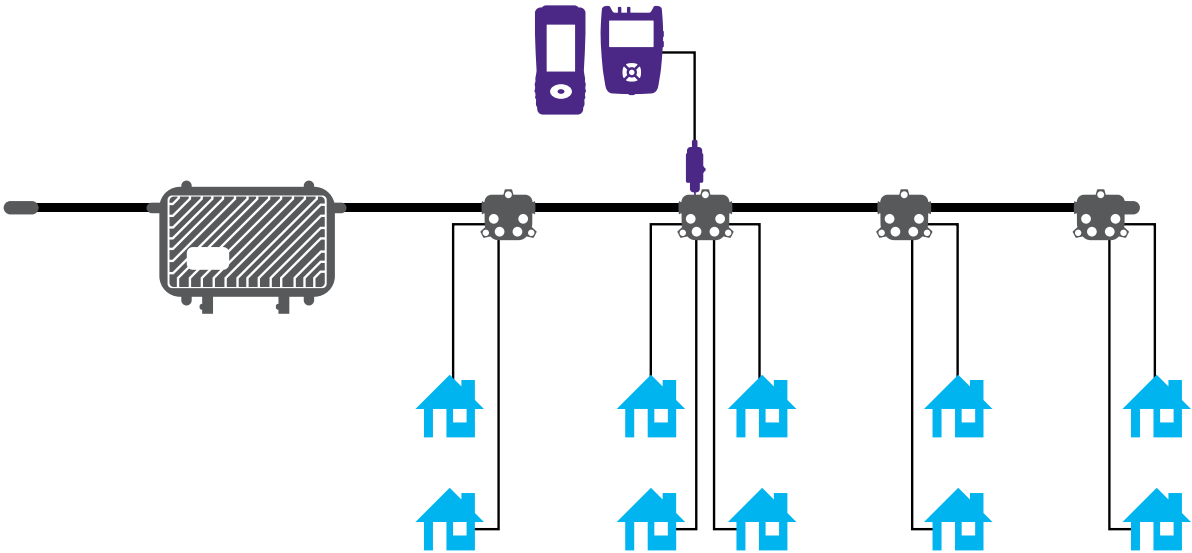

Figure 2 – Signal level meter connected to I-Stop probe
b. Connect signal level meter to F type port on I-Stop probe (Figure 2)
- b. Connect signal level meter to F type port on I-Stop probe (Figure 2)